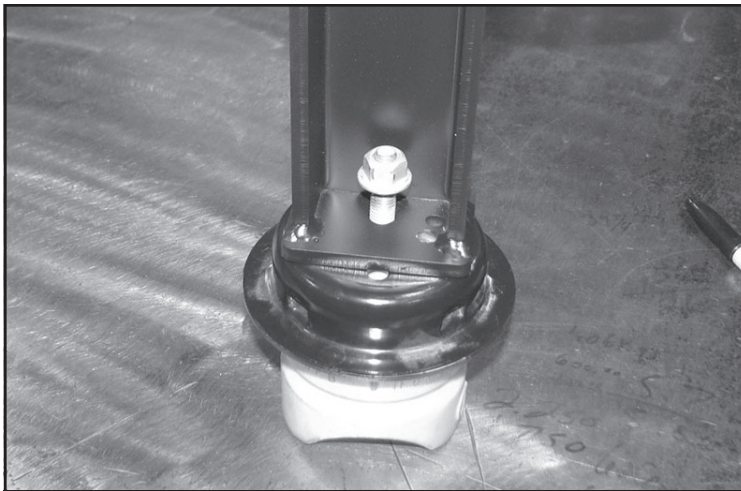

FIGURE 25 - STEP 33
33. Remove the factory bump stop from the frame and separate the bumpstop from the mounting plate. Install FT30750 (Bumpstop Extension) onto the bumpstop using the factory nut. **Note: The alignment tab will seat into the hole on the new bracket. SEE FIGURE 25**